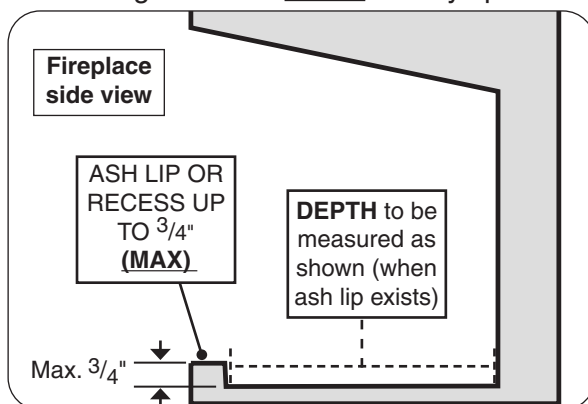

Fig. 9-1 Ash lip/recess detail
**DO NOT** install this burner system in a fireplace with an ash lip or recess greater than  $\frac{3}{4}$ ". See Fig. 9-1.